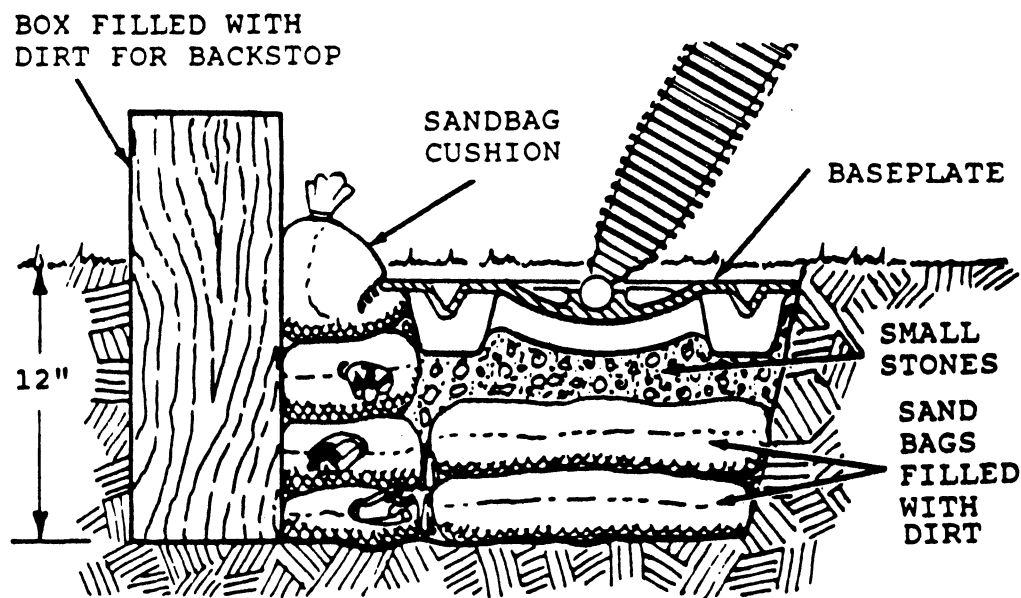

Fig 4-1. Firing platform for soft surface.
- (1) Soft surfaces. Fill sandbags with dirt dug from the baseplate pit, place the sandbags back into the hole with the baseplate on top of the sandbags. You can even fill an ammunition box full of dirt and use it as a backstop. Both will slow down the sinking of the baseplate (fig 4-1).